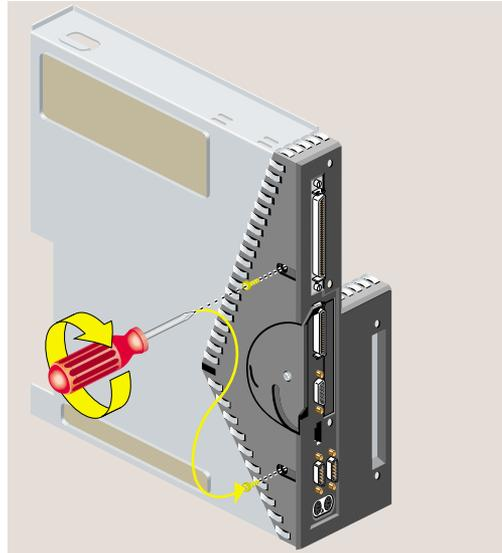

Figure 5-18 Replacing Two Screws on the Underside
13. Align the screwholes on the faceplate with the screwholes on the system module. Use a Phillips screwdriver to insert and tighten two screws on the underside in the locations shown (Figure 5-18).